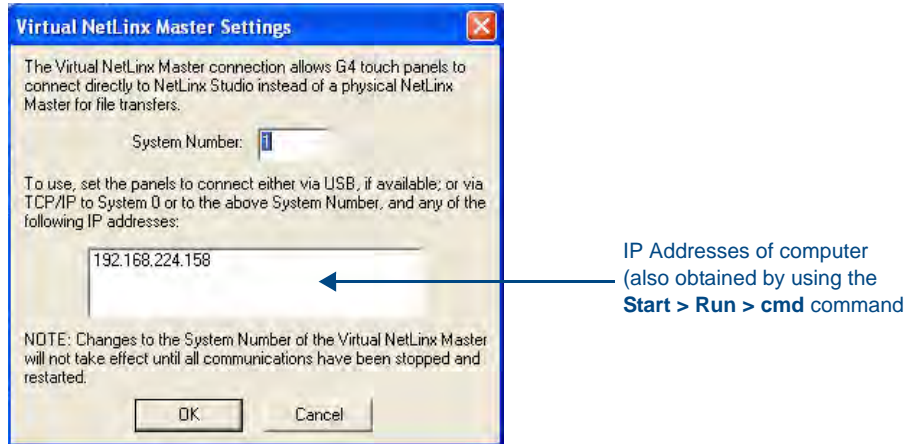

FIG. 39 Virtual NetLinX Master Settings dialog
6. Click the **Edit Settings** button in the *Communications Settings* dialog to open the *Virtual NetLinx Master Settings* dialog (FIG. 39).